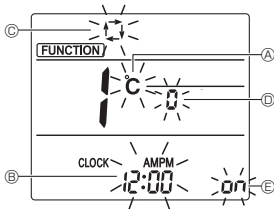

Fig. 3-2
- Press the **UP** button ④ to change the function No.
- Check that function No. "1" is displayed, and then press the **SET** button ③.
- The display setting screen will be displayed. (Fig. 3-2)
2) Changing the temperature unit (A) (Fig. 3-2)
- Press the **TEMP** button ⑤.
- Each time the **TEMP** button ⑤ is pressed, the setting switches between **C** and **F**.
3) Changing the time display (B) (Fig. 3-2)
- Press the **TIME** button ⑥.
- Each time the **TIME** button ⑥ is pressed, the setting switches between **12:00** and **24:00**.
4) Changing the AUTO mode (C) (Fig. 3-2)
- Press the **—** button ⑦.
- Each time the **—** button ⑦ is pressed, the setting switches between **□** and **□**.
5) Changing the pair No. (D) (Fig. 3-2)
- Press the **UP** button ④.
- Each time the **UP** button ④ is pressed, the pair No. 0-3 changes.
6) Changing the backlight setting (E) (Fig. 3-2)
- Press the **ON/OFF** button ⑧.
- Each time the **ON/OFF** button ⑧ is pressed, the setting switches between **on** and **off**.
- Press the **SET** button ③.